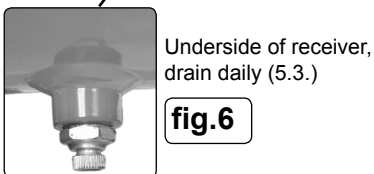

fig.6
- 3.8. Check drain valve is closed (fig.6)